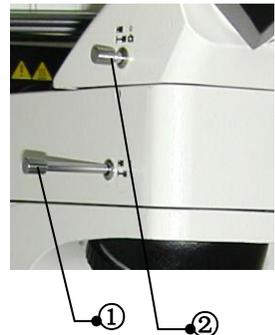

Fig.5
3. Push the bright/dark push rod ① of reflected illumination in, like the mark “BF”, mean is bright field of view observation. Push the bright/dark push rod ① of reflected illumination out, like the mark “DF”, mean is dark field of view observation. See fig.5.
4. Push the eyepiece observation/photography push rod ② in, mean is eyepiece observation, like the mark “E”. Push the eyepiece observation/photography push rod ② out, mean is photography, like the mark “”. See fig.5.
5. Push the analyzer push rod ① in, mean is
2. Push the bright/dark push rod ① of reflected illumination in, like the mark “B ” , mean is bright field of view observation. Push the bright/dark push rod ① of reflected illumination out, like the mark “D ” , mean is dark field of view observation. See fig.5.
3. Push the eyepiece observation/photography push rod ② in, mean is eyepiece observation, like the mark “ ” . Push the eyepiece observation/photography push rod ② out, mean is photography, like the mark “ ” . See fig.5.